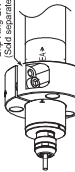

Fig. 15
- * When installing a EM30 - S6000, using "Grip Ring GR-30 (sold separately)" (Fig. 15) is recommended. If the Grip Ring GR-30 (sold separately) cannot be used due to the size of the Motor Spindle, install the EM25 - S6000 or EM20 - S6000. Install as shown in ② below.